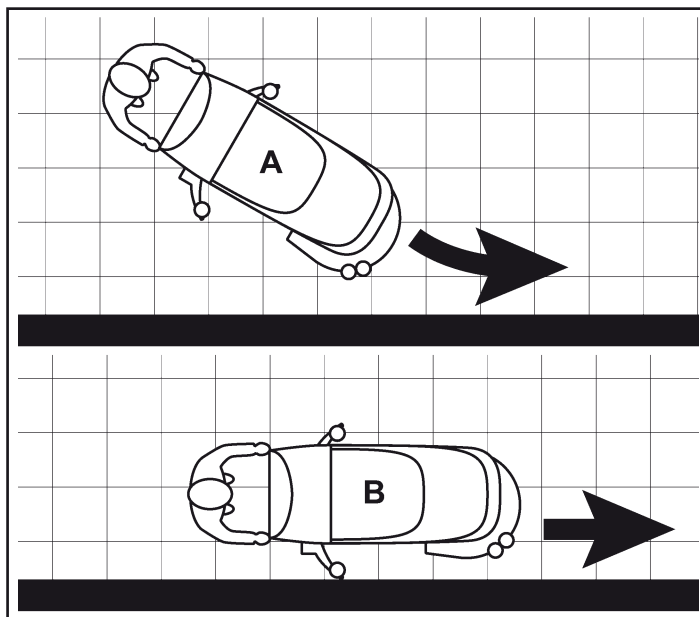
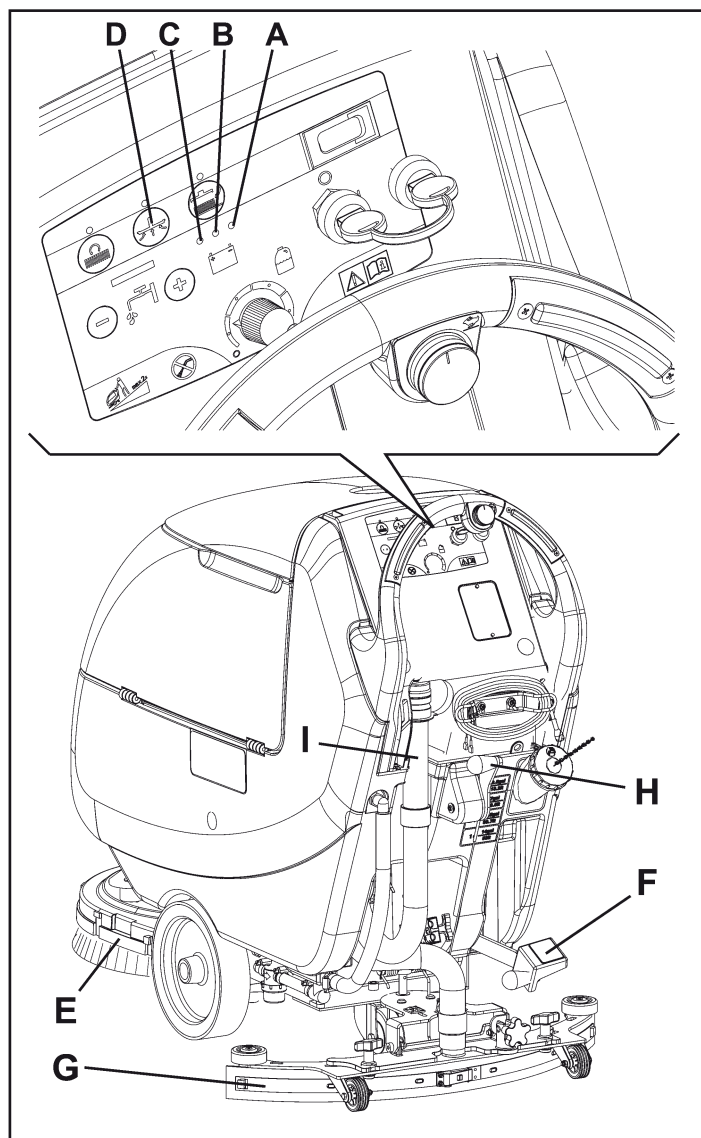
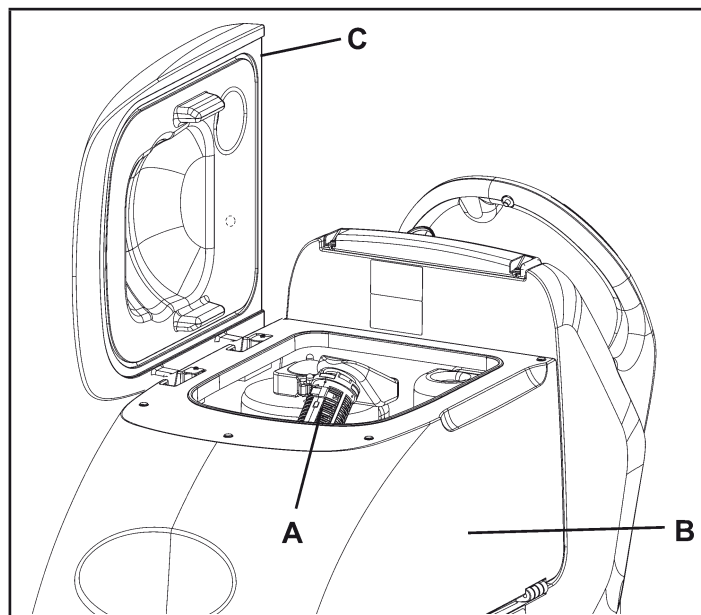

Figure 19
Figure 21
Figure 22
For correct scrubbing/drying of floors at the sides of the walls, Clarke suggests to go near the walls with the right side of the machine (A and B, Fig. 19) as shown in the figure.
Until the green warning light (A, Fig. 21) stays on, the batteries allow the machine to work normally. When the green warning light (A) turns off, and the yellow warning light (B) turns on, it is advisable to charge the batteries, because the remaining charge will last for a few minutes (depending on battery characteristics and work to be performed).
An automatic float shut-off system (A, Fig. 22) stops the vacuum system when the recovery water tank (B) is full.
If the vacuum system turns off accidentally (for example, when the float is activated because of a sudden machine movement), to resume the operation: turn off the vacuum system by pressing the switch (D, Fig. 19), then open the cover (C, Fig. 22) and check that the float inside the grid (A) has gone down to the water level. Then close the cover (C) and turn on the vacuum system by pressing the switch (D, Fig. 19).
When the recovery water tank (B, Fig. 21) is full, empty it according to the following procedure.
2. Lift the brush/pad-holder deck (E, Fig. 21) by pressing the pedal (F).
3. Lift the squeegee (G) with the lever (H).
5. Empty the recovery water tank with the hose (I). Then, rinse the tank (B, Fig. 22) with clean water.